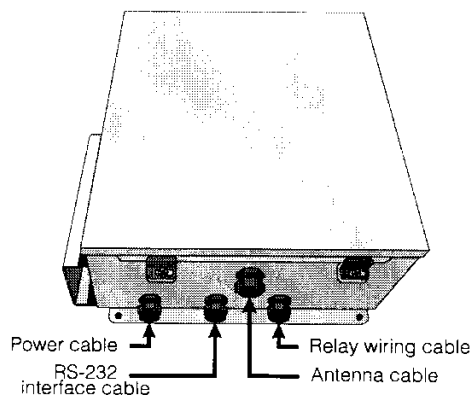

Figure 4. Conduit connectors on Reader
- Hold the Reader against the wall with the conduit connectors at the bottom, as shown in Figure 4, and the holes in the flanges at the top of the cabinet over the two anchors/mollybolts.
Route the conduit to reach the connectors on the Reader. Connect each conduit to the appropriate connector, as shown in Figure 4.
The loop antenna wires and lead wire length are critical. They must conform to the dimensions shown in the table in section 2.4.1. Pull the lead wires through the underground conduit from the loop antenna to the Reader as follows. Repeat the procedure for each Reader installed. Refer to Figure 4.
The AC power cable must be installed by a licensed electrical contractor. It must be routed through the conduit from the AC power source to the Reader, and approximately 1 foot (31 cm) of slack cable must be left inside the Reader cabinet, enough to make the necessary connections. The procedure must be repeated for each Reader installed. Refer to Figure 4.
Pull the cable through the underground conduit between the Reader and the PC. Repeat the procedure for each Reader installed. Refer to Figure 4.